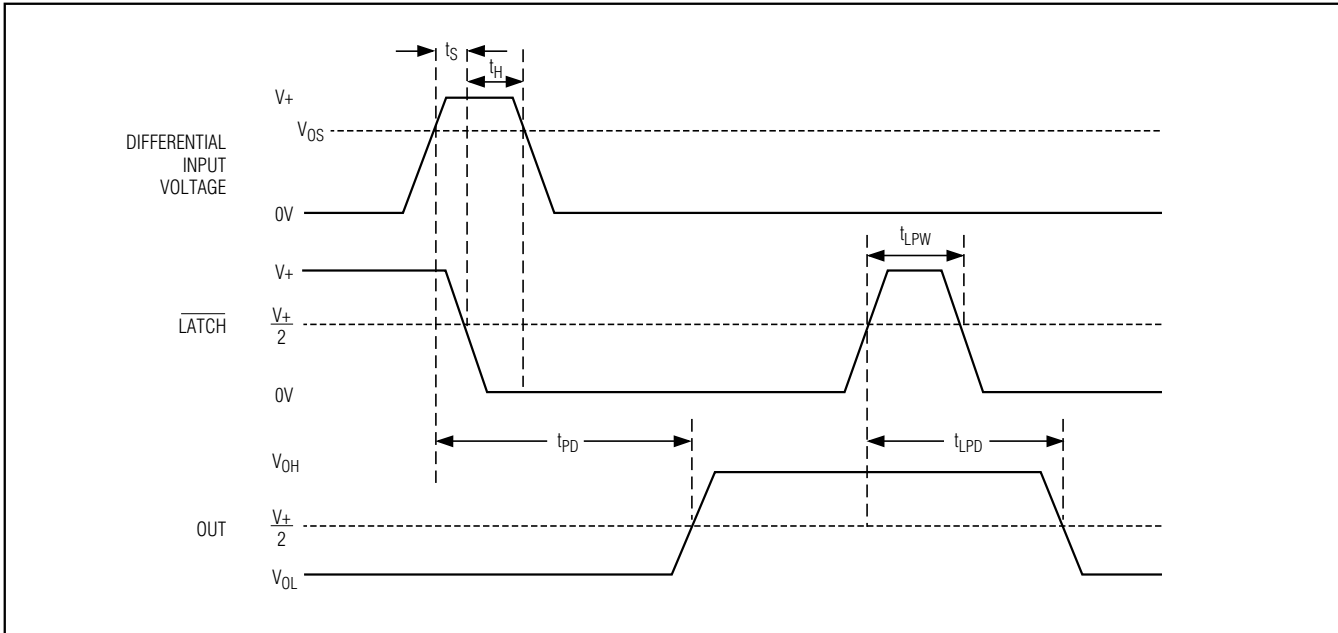

Figure 2. MAX941 Timing Diagram with Latch Operator
- Note 8:** Parameter is guaranteed by design and specified with VOD = 5mV and CLOAD = 15pF in parallel with 400μA of sink or source current. VOS is added to the overdrive voltage for low values of overdrive (see Figure 2).
- Note 12:** Applies to the MAX941 only. Comparator is active with  $\overline{\text{LATCH}}$  pin driven high and is latched with  $\overline{\text{LATCH}}$  pin driven low (see Figure 2).